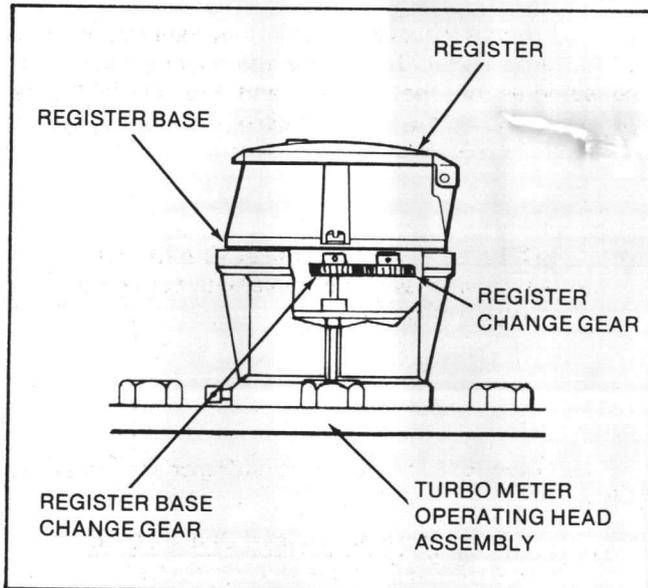

Figure 4-1. Change Gear Location Register Base and Register Assembly
5. Install the corrected change gears on the register base and register spindles taking care that the correct change gears are assembled to the appropriate spindles (See Figure 4-1). Assemble the register to the register base on the meter. Refer to section 4-7a for instructions covering the proper method of installing and meshing change gears. On meters with 76 Series registers, provision for change gear adjustment is built into the registers. See the applicable register IOM manual for recalibrating instructions.